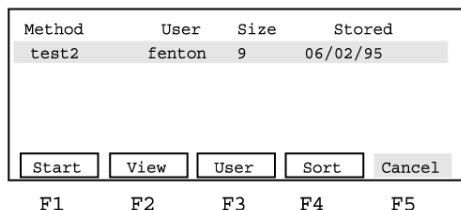

Figure 2-2. The Stored Methods screen
You select a method by moving the highlight box to a method listed on the Stored Methods screen (Figure 2-2). If you need help deciding which method to select you can: view method parameters, sort methods by different categories, or search for a method by user name.
1. From the Main menu, press **F1-Run**. This displays the Stored Methods screen (Figure 2-2).
After reviewing pre-PCR, PCR and post PCR parameters of a stored method, you can either press **F1-Start** and start the method, or press **F5-Cancel** and return to the Stored Methods screen (Figure 2-2).
You can start a run after you select a stored method from the Stored Methods screen (see Figure 2-2).